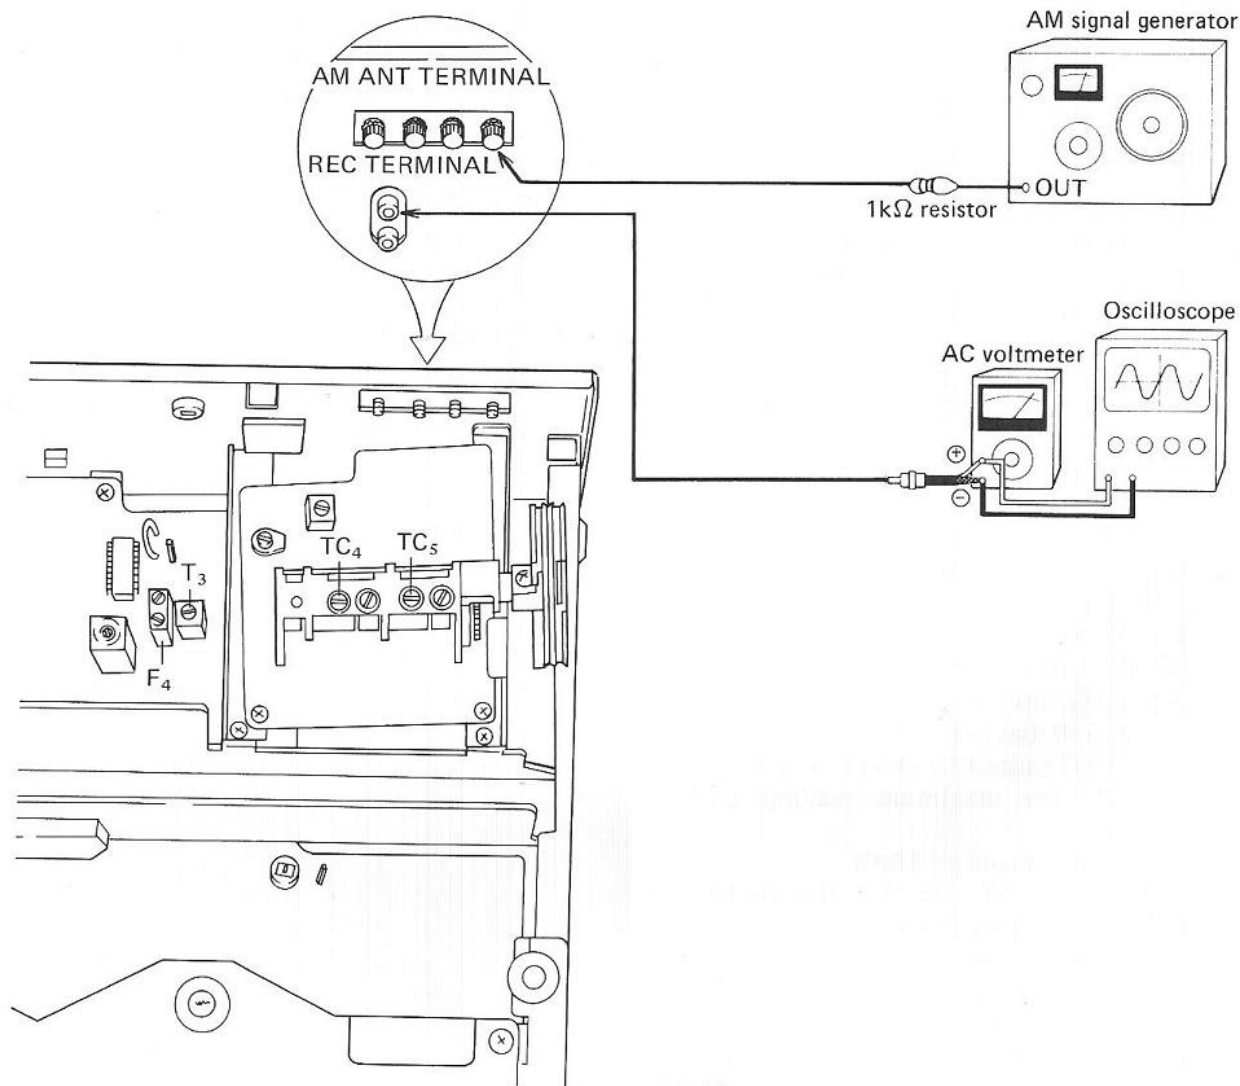

Fig. 5
1. Connect up the test instruments as shown in Fig. 5.